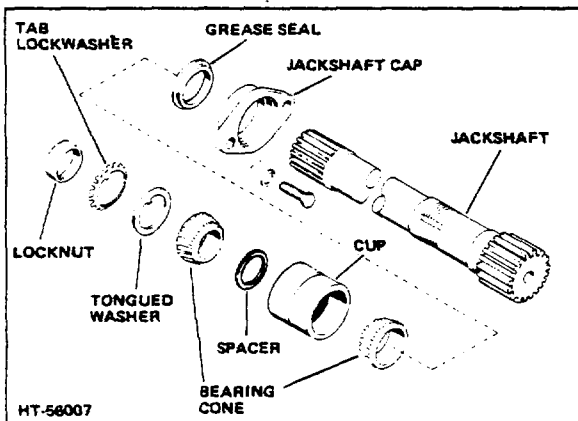

Figure 1-5. Jackshaft Assembly (ACE 20 thru 80)
- h. Straighten locking tabs of lockwasher (Fig 1-5); remove locknut, lockwasher, and tongued washer from jackshaft.
- i. Place jackshaft assembly on a suitable press and remove the bearings (Fig 1-5).
- b. Install axle shaft cap (Fig 1-5), grease seal, bearing assembly, tongued washer, tab lockwasher, and locknut on jackshaft. Secure locknut in position with tabs on lockwasher.